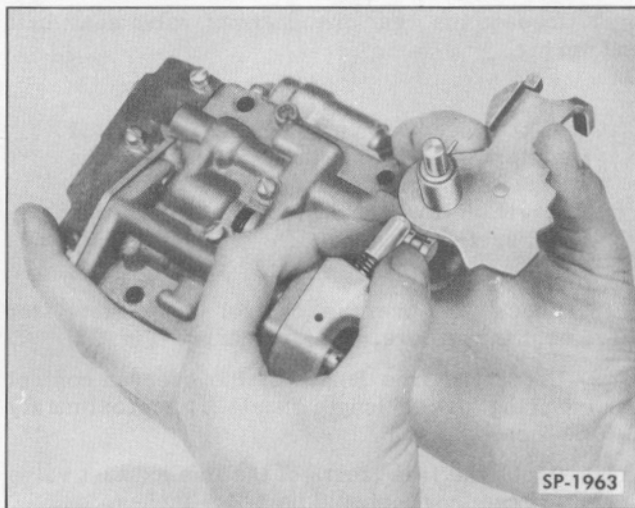

Fig. 30—Removing Detent Plunger and Spring
1. Rotate the inside detent control lever slowly counter-clockwise and remove the detent plunger and spring (Fig. 30).